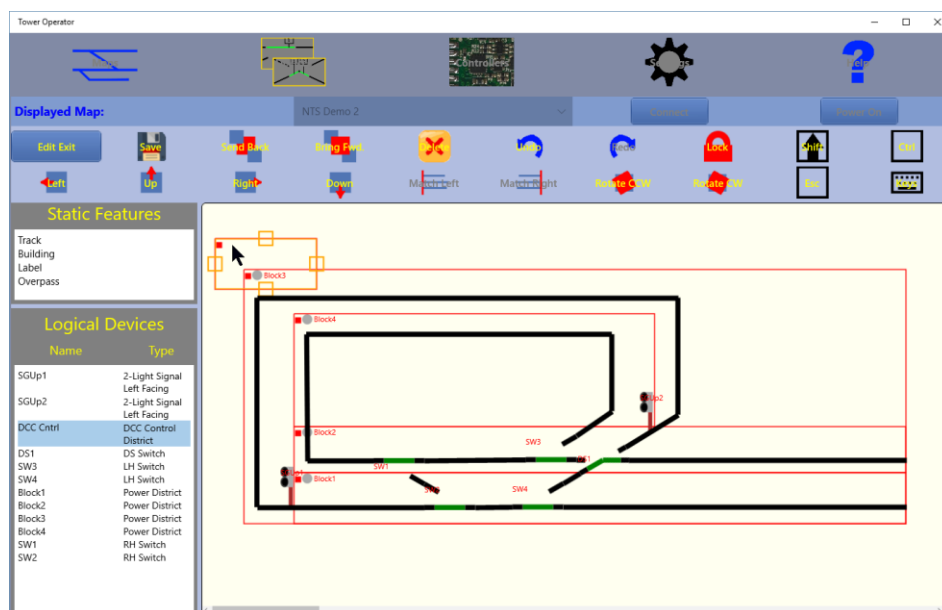

Figure 28 Adding the DCC Control District to a Map
- (4) Now go to the Maps tab and click the Edit Button. The side panel shows the logical devices available. DCC Cntrl is selected in Figure 28. Click on the map to place the logical device, then drag the sides so that it surrounds the entire layout.
- (5) When it is positioned properly, click Save and Edit Exit. You now can turn the DCC Control on and off by tapping the symbol in the top left.
- (6) You can use the same procedure to add your programming track to the map with a separate DCC Control District logical device for the Program Channel.